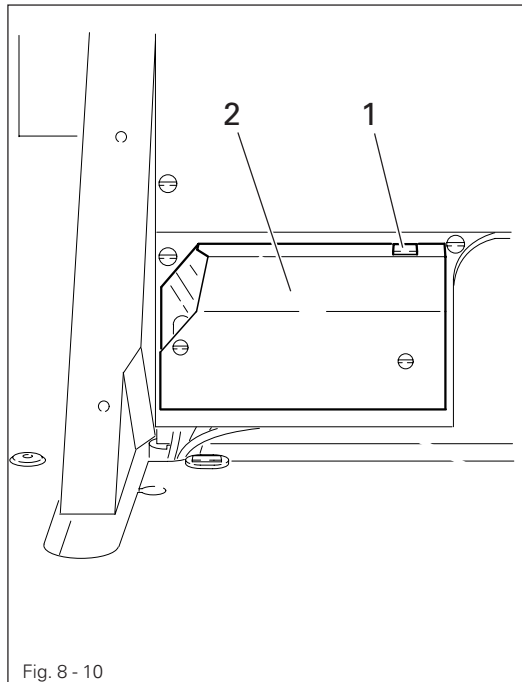

Fig. 8 - 10
- Fit the reel stand as shown in Fig. 8 - 08.